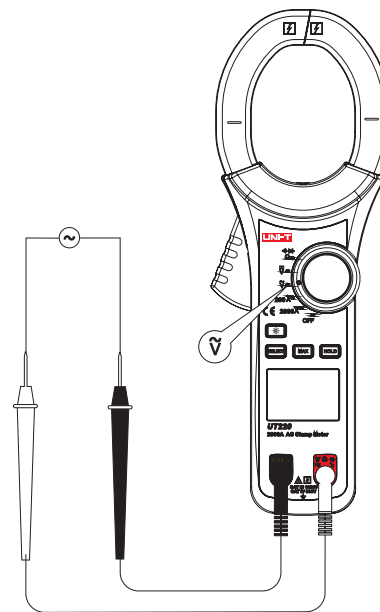

Figure 4
2. AC voltage measurement \tilde{v} (See Figure 4)